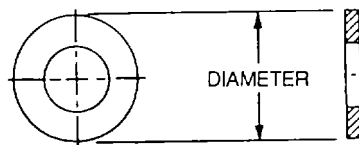

Figure 2-29. Plain Washer
*a Plain Washers.* The AN960 plain washer, as shown in figure 2-29, is used under AN hexagon nuts to provide a smooth bearing surface It acts as a shim in obtaining the correct relationship between the threads of the bolt and the nut It will adjust the position of castellated nuts with respect to drilled cotter pin holes in bolts.
(1) Uses The general rule is to use one washer under each nut. However, if one washer falls to cover the underthread grip or falls to place the nut in the proper position for cotter pins, then one more washer may be added if more than two washers are needed, the bolt length should be changed. Other use criteria are as follows.